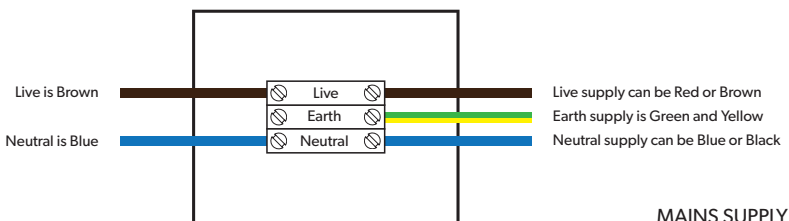

Fig 1. - Zonal Diagram
1. Position the mirror in a suitable location *according to the zonal diagram - Fig. 1*, ensuring that the domestic electrical mains supply is within reach of the cable connection point of the product.